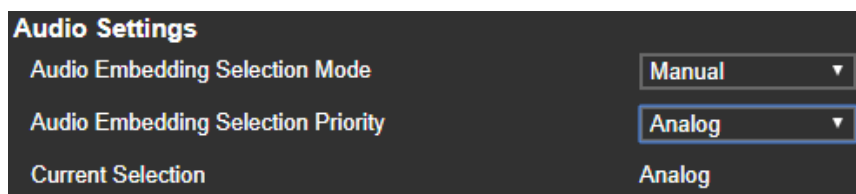

Figure 15: TP-594Txr Video and Audio Page – Analog Audio to Receiver Settings (no HDMI signal)
5. Under Audio Settings (Figure 15):